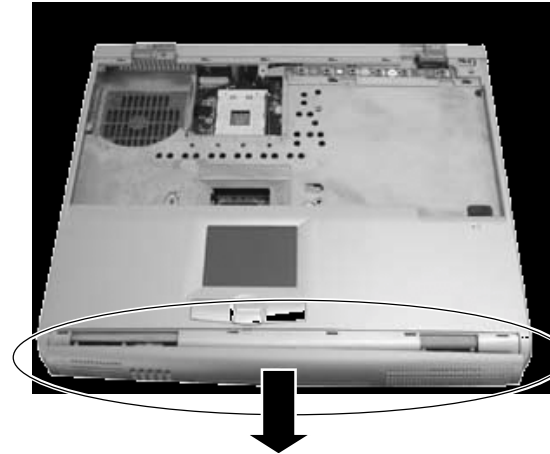

Figure 2-21 Remove the speaker assembly
3. Remove the speaker assembly from the notebook. (Figure 2-21)